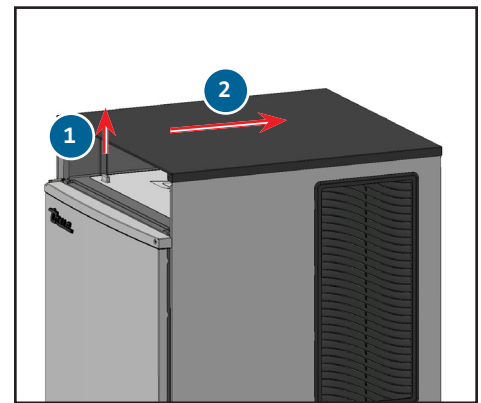

Fig. 2. Lift the front edge, then slide the top panel back.
3. Remove the top panel. See fig. 2.